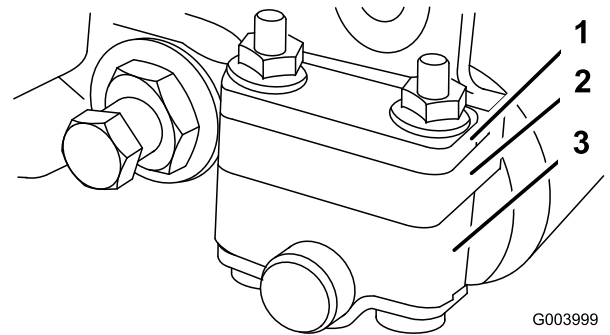
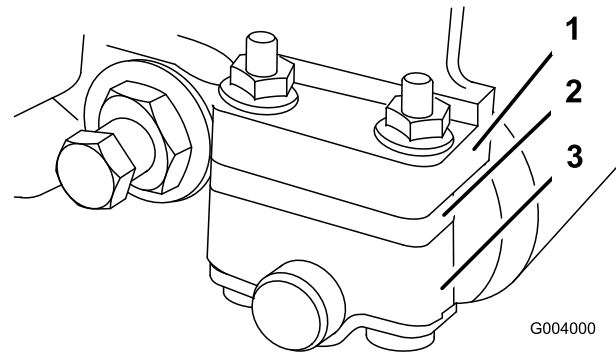

Figure 48
Figure 49
1. Adjust the rear roller brackets to the low or high position depending on desired height of cut range (Figure 48 and Figure 49).